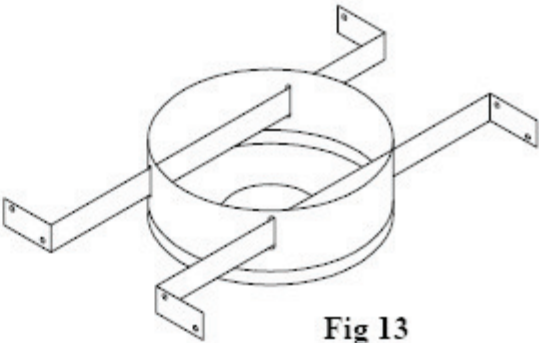

Fig 13
**1. Description.** The **Bucket Support** (shown in Figure 13) is for properly supporting the B-vent between 16 or 24-inch O.C. joists or rafters, or for providing a transition fitting